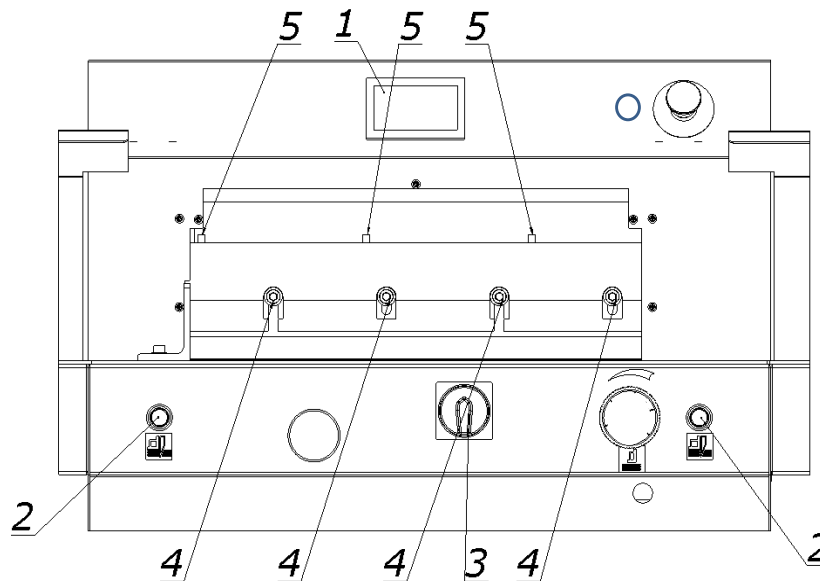

Figure 33.
8.1.2.9 Pressing the push buttons, 2  (Fig. 33) at the same time, start the cutting cycle. The knife will stop in the lower position.
8.1.2.10. Switch off the power supply of the electrical system by turning the main switch knob, 3 (fig. 33) to the "0" position
8.1.2.14. Tighten the fixing screws 4 (figure 33)
8.1.2.15. Switch on the power supply of the electrical system by turning the main switch knob 3 (fig. 33) to position "I".
8.1.2.16. Turn off the "knife change" function on the programmer 1 (fig.33)
8.1.2.18. Turn off the power supply of the electrical system by turning the main switch knob 3 (fig. 33) to the "0" position
8.1.2.20. Turn on the power supply of the electrical system by turning the knob of the main switch 3 (fig.33) to position "I"